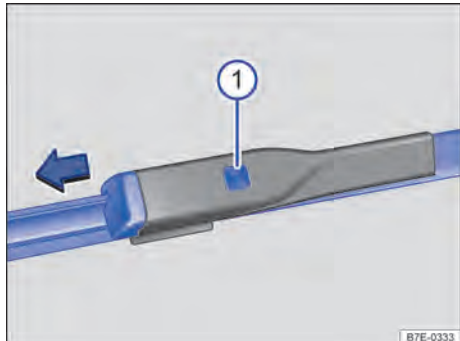

Fig. 170 On the windscreen: changing the wiper blades
① Release button.
3. Press and hold the release button and simultaneously pull off the wiper blade in the direction of the arrow → Fig. 170 ①.